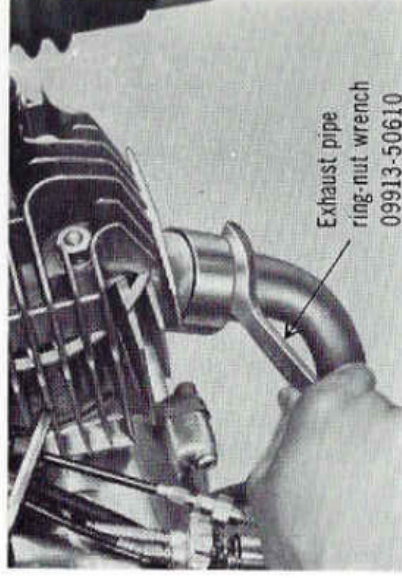

Fig. 8-1-9
12. Un screw **exhaust pipe ring nut** with exhaust pipe ring nut wrench (special tool 09913-50610). Loosen muffler connector band screw with cross head screw driver. Twist exhaust pipe down. (Fig. 8-1-9)